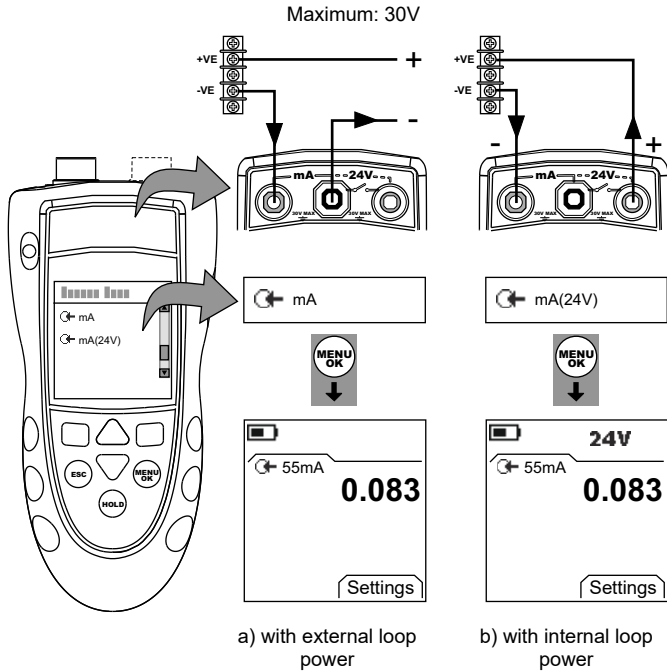

Figure 7: Example Configuration - mA Measurement
1. Connect the instrument (Figure 7) and, if necessary, adjust the *Set Up* (Table 1).
1. DPI 802/802P only. Connect the instrument to the calibration equipment (Figure 7).